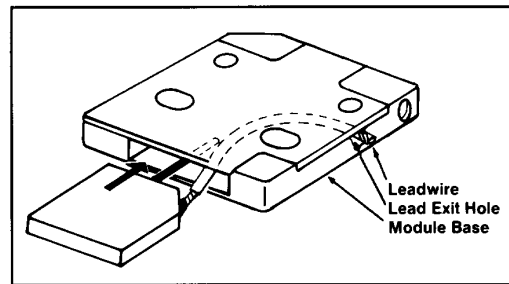

Figure 4 - Threading Lead thru Exit Hole
- c. Insert the lead into the brush slot and slide the brush into the module until the lead protrudes through the exit hole, as shown in Figure 4.